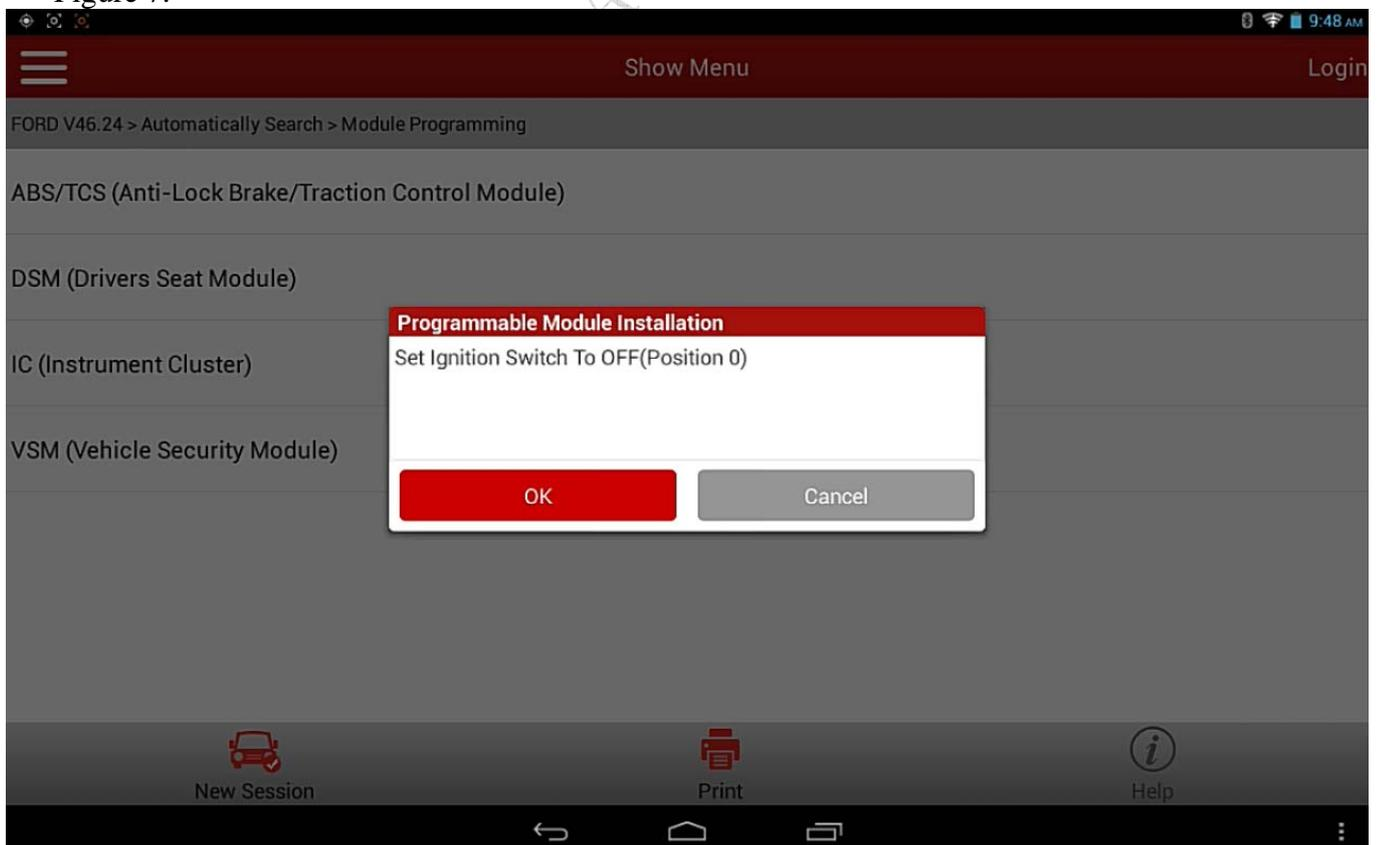

Figure 7
11). After program running is complete, turn the ignition key to OFF (position I) and click OK. See Figure 7.